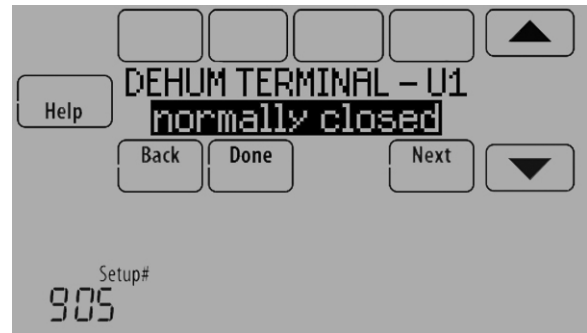

Fig. 128.
3. Select whether the U1 terminal are Normally Open or Normally Closed. See Fig. 128.